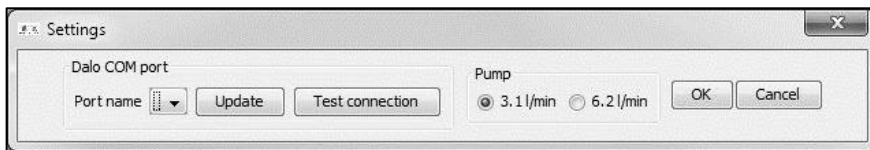

Fig. 3: Window ‘Settings’.
- In the menu bar, click 'Dalo – Settings' or the symbol 'Settings' in the tool bar. The 'Settings' window opens (Fig. 3).